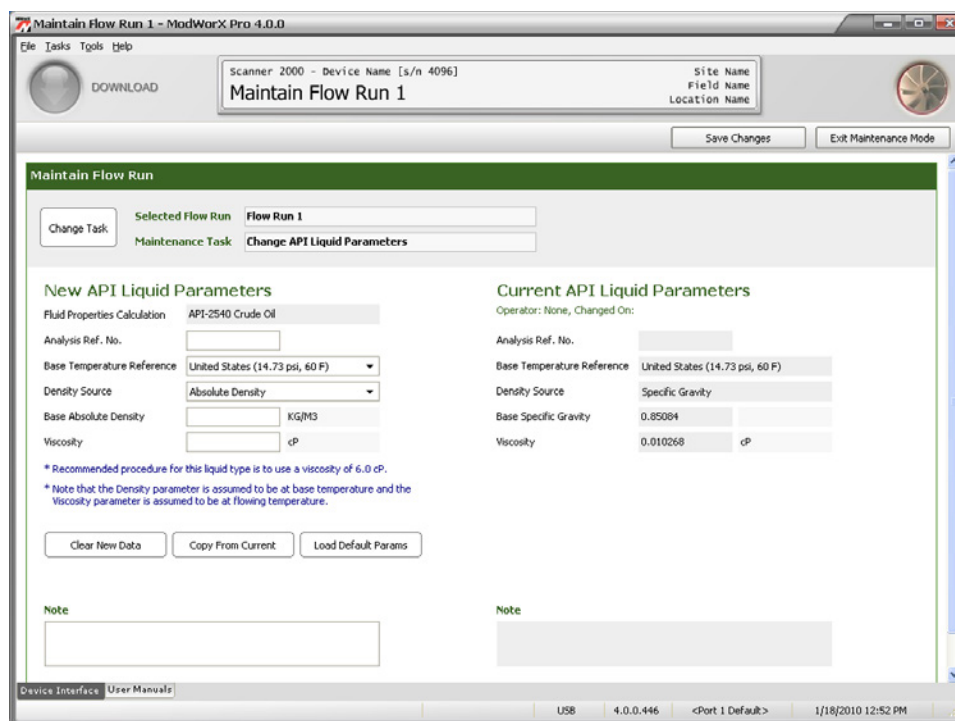

Figure C.3
- c. Click **OK** to save the settings and return to the Maintain Flow Run screen (Figure C.3, page C-3).